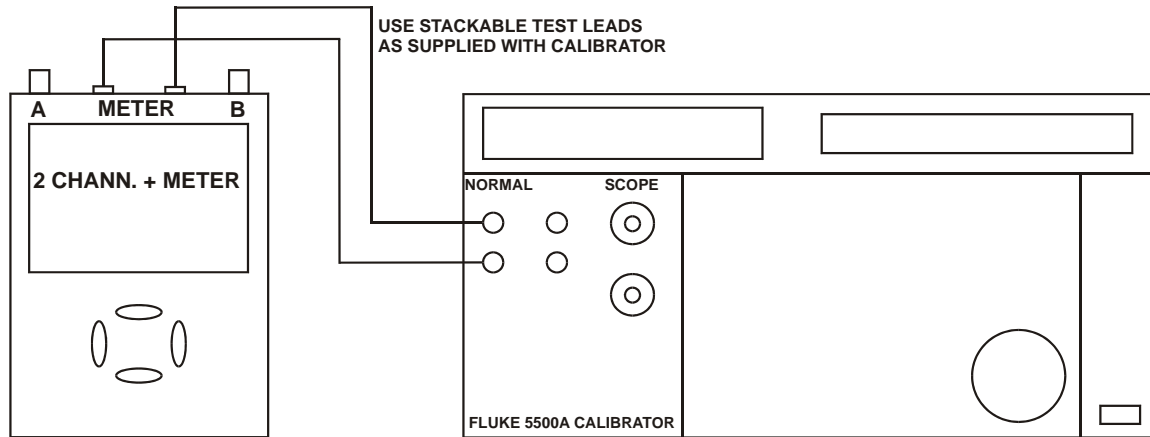

Figure 4-21. Test Tool Meter/Ext Input to 5500A Normal Output
1. Connect the test tool to the 5500A as shown in Figure 4-21.
1. Connect the test tool to the 5500A as for the previous test (see Figure 4-21).
2. Connect the test tool to the 5500A as for the previous test (see Figure 4-21).